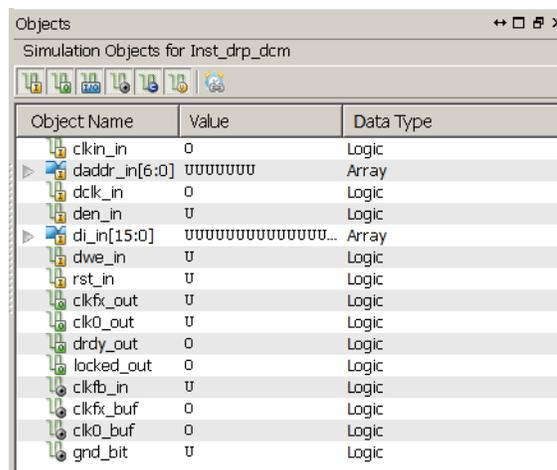

Figure 4-17: Simulation Objects Panel
3. Simulation objects associated with the currently highlighted design unit appear in the Objects panel (refer to Figure 4-17).